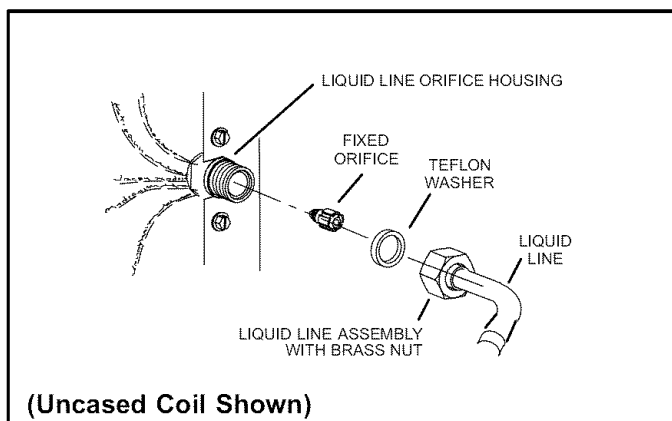

Figure 18. Typical Fixed Orifice Installation
1. Installed the provided RFC orifice that was supplied with the outdoor unit as illustrated in figure 18.